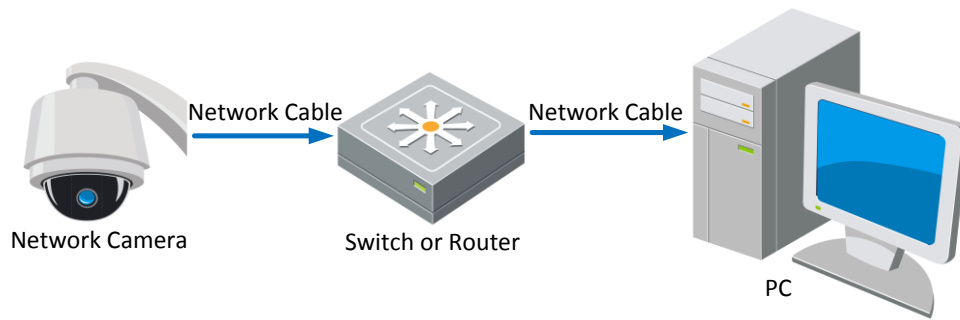

Figure 1-2 Connecting via an Switch or a Router
- Refer to Figure 1-2 to set the camera over the LAN via a switch or a router.